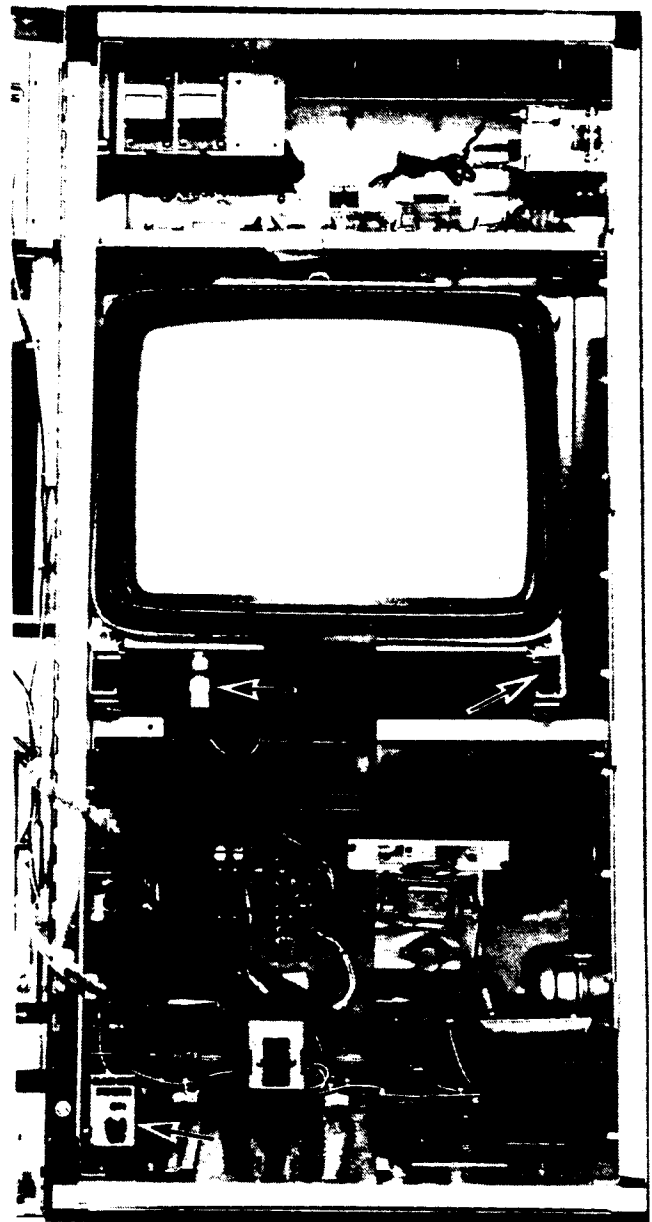

Figure 4-1
- 1) Turn the main power to the machine OFF. See Figure 4-1.